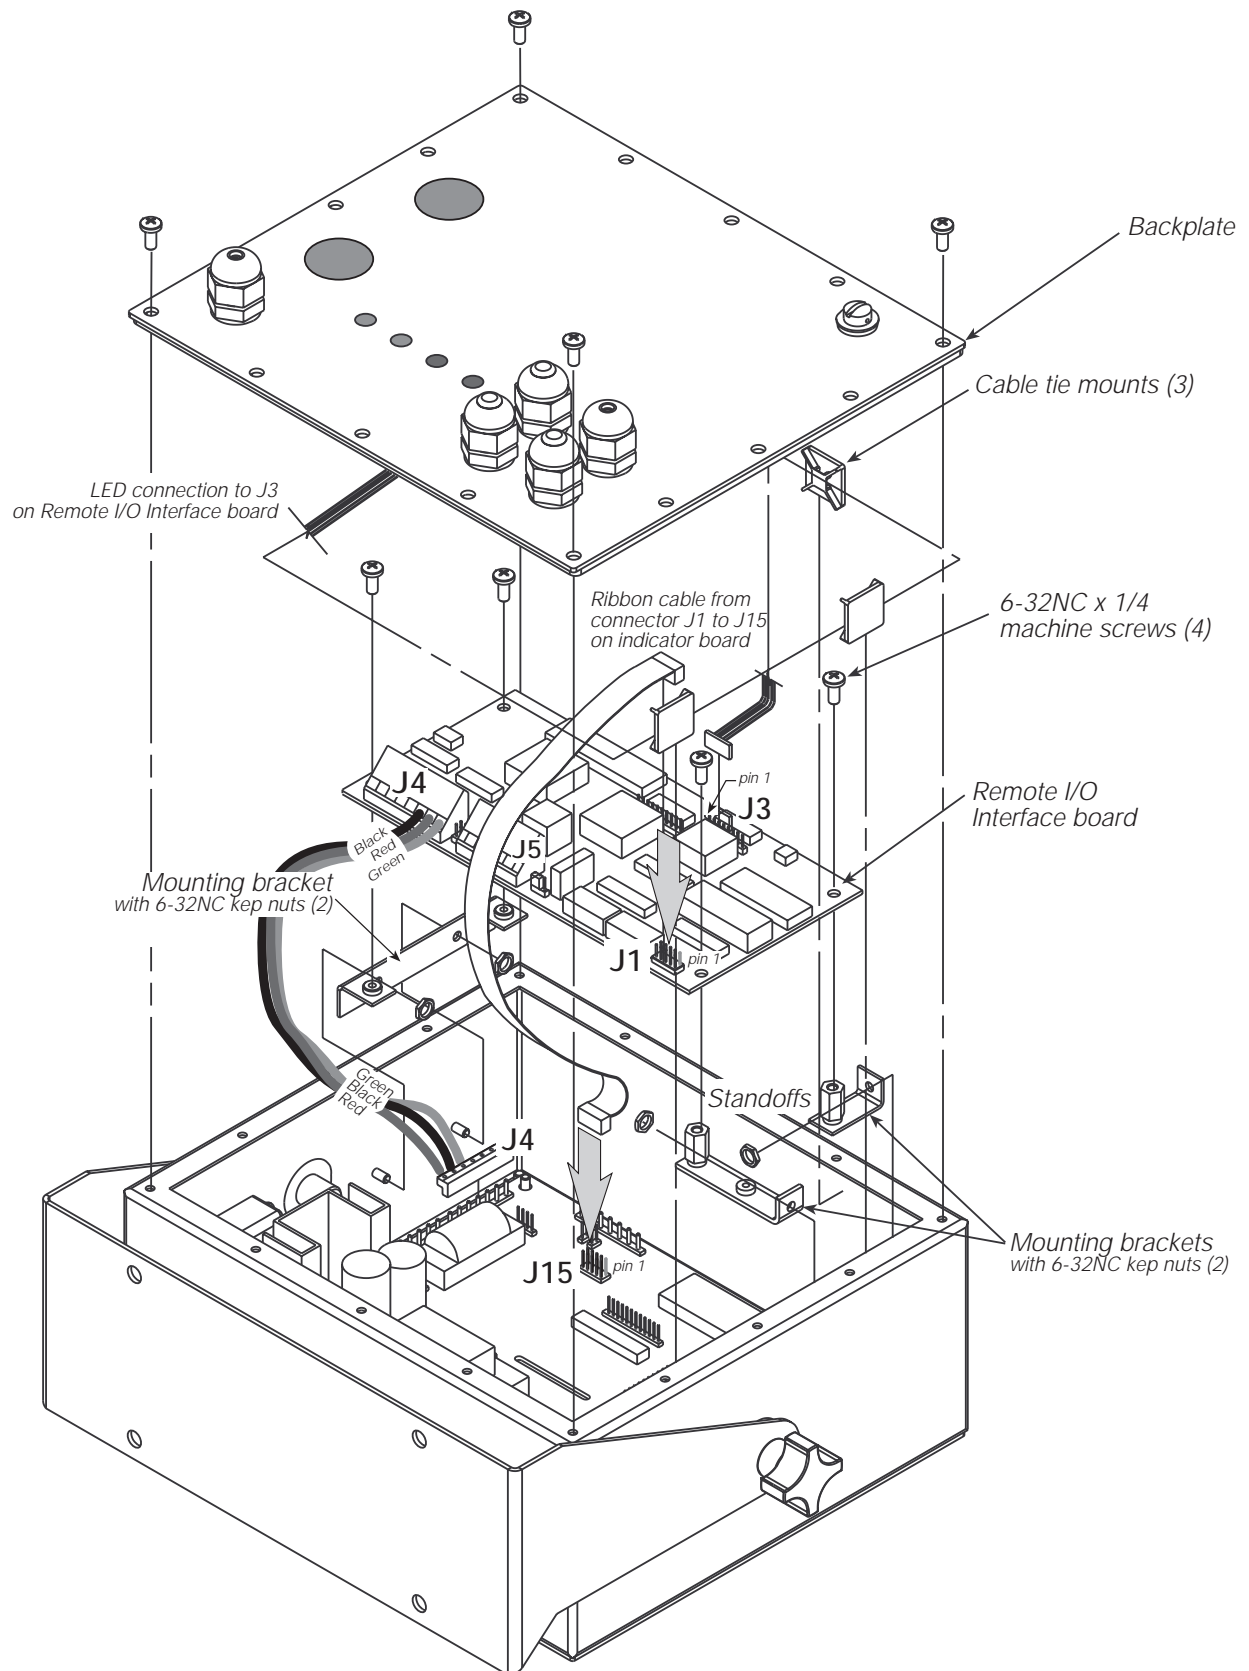

Figure 2-4. Remote I/O Interface Board Installation and Wiring
8. Use the four 6-32NC kee nuts supplied to mount the three brackets as shown in Figure 2-4 on page 4.
9. Attach three cable tie mounts to the inside of the indicator enclosure as shown in Figure 2-4.
10. Use cable ties to secure cable from the backplate LED annunciators to the Remote I/O Interface board. Allow enough slack in the wires to reach the location of connector J3 (see Figure 2-4).
11. Remove connector J4 from the header on the indicator CPU board. Connect the black, red, and green wires to the connector as shown in Table 2-1 and in Figure 2-4, then reinstall J4 on the indicator board.
12. Plug 10-pin ribbon cable into connector J15 on the indicator CPU board as shown in Figure 2-4. Ensure connector is oriented as shown in the drawing, with red wire of ribbon cable toward center of board.
13. Use the four 6-32NC x 1/4 machine screws supplied to mount the Remote I/O Interface board on the brackets as shown in Figure 2-4.
15. Plug ribbon cable connector from J15 on the indicator CPU board into connector J1 on the Remote I/O Interface board. Ensure cable is oriented as shown in Figure 2-4, with red wire of ribbon cable attached at pin 1 on both connectors.